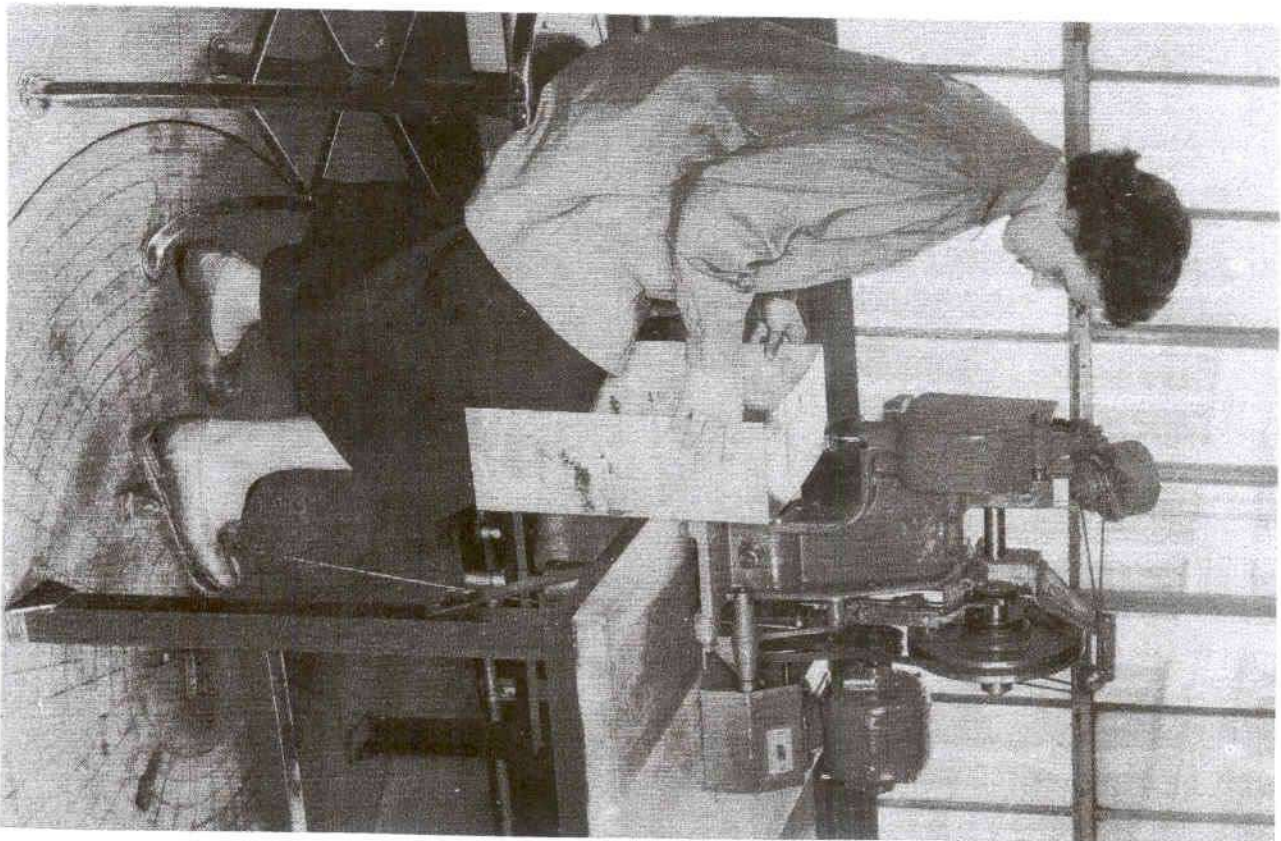
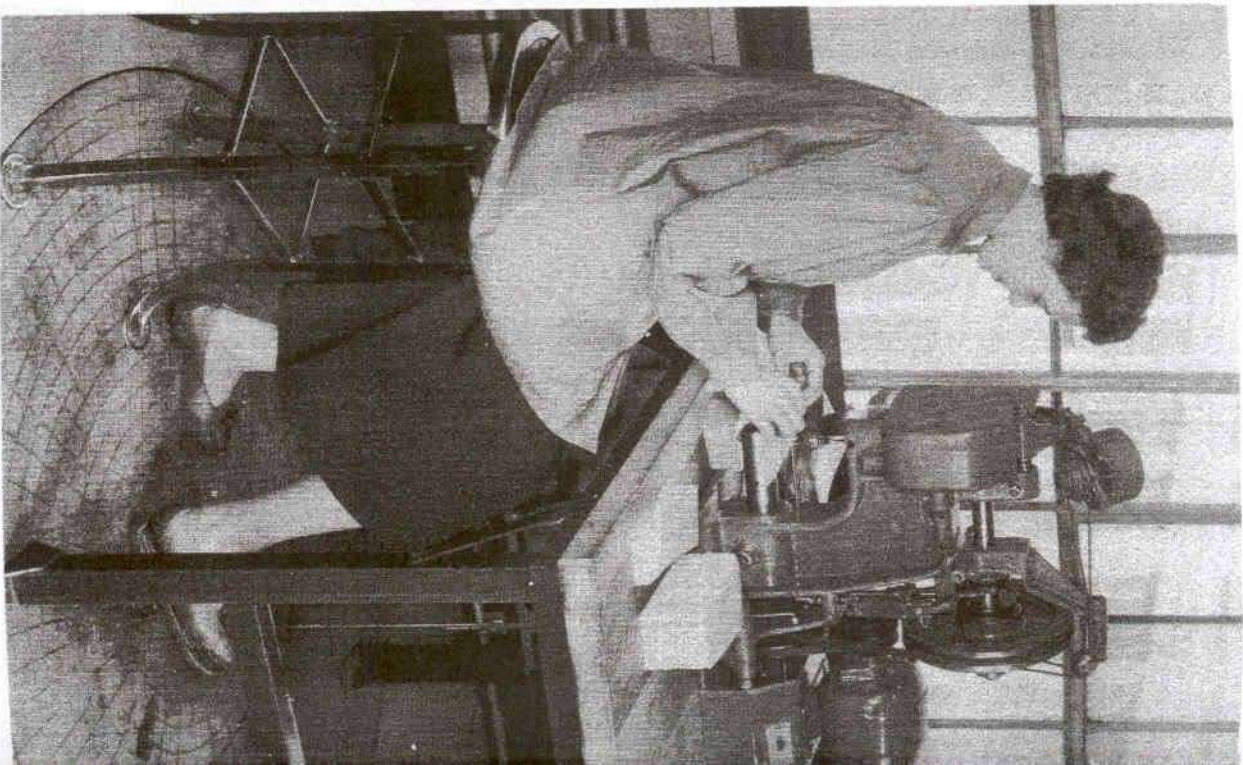

Figure 2 - View of Machine With Operator - Horn Extending Over Edge Of Bench
Figure 3 - View of Machine With Operator - Machine Set
A. Installation (See Figures 2 and 3)
2. Before cutting your bench top, consider your work and the way you will handle it. Will the work be easier to handle if the horn of the machine is out in front of the bench as shown in Figure 2 or should the machine be set back from the edge of the bench as shown in Figure 3? The horn extends 3-1/2" beyond the front edge of the base of the machine. The center of the set die is 3" beyond the base.